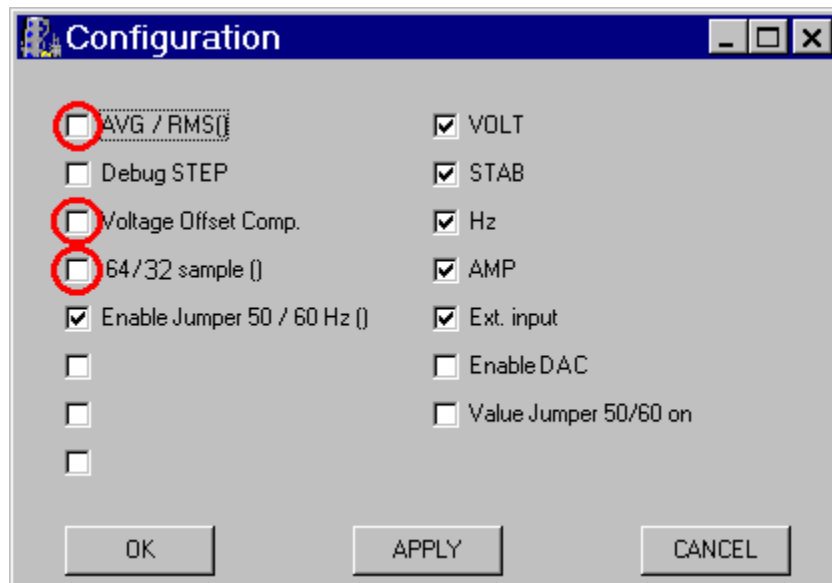

Fig. 3: Set up in the “configuration” menu for a correct IF321 usage
- 3.5. By means of the *Configuration* button it is possible to open the menu shown in fig.3
- 3.6. Remove the selection from the AVG/RMS () box, like it is indicated in Fig. 3 (recommended)⁽³⁾
- 3.7. Remove the selection from the Voltage Offset Comp. box, like it is indicated in Fig. 3 (mandatory)
- 3.8. Remove the selection from the 64/32 sample () box, like it is indicated in Fig. 3 (mandatory)